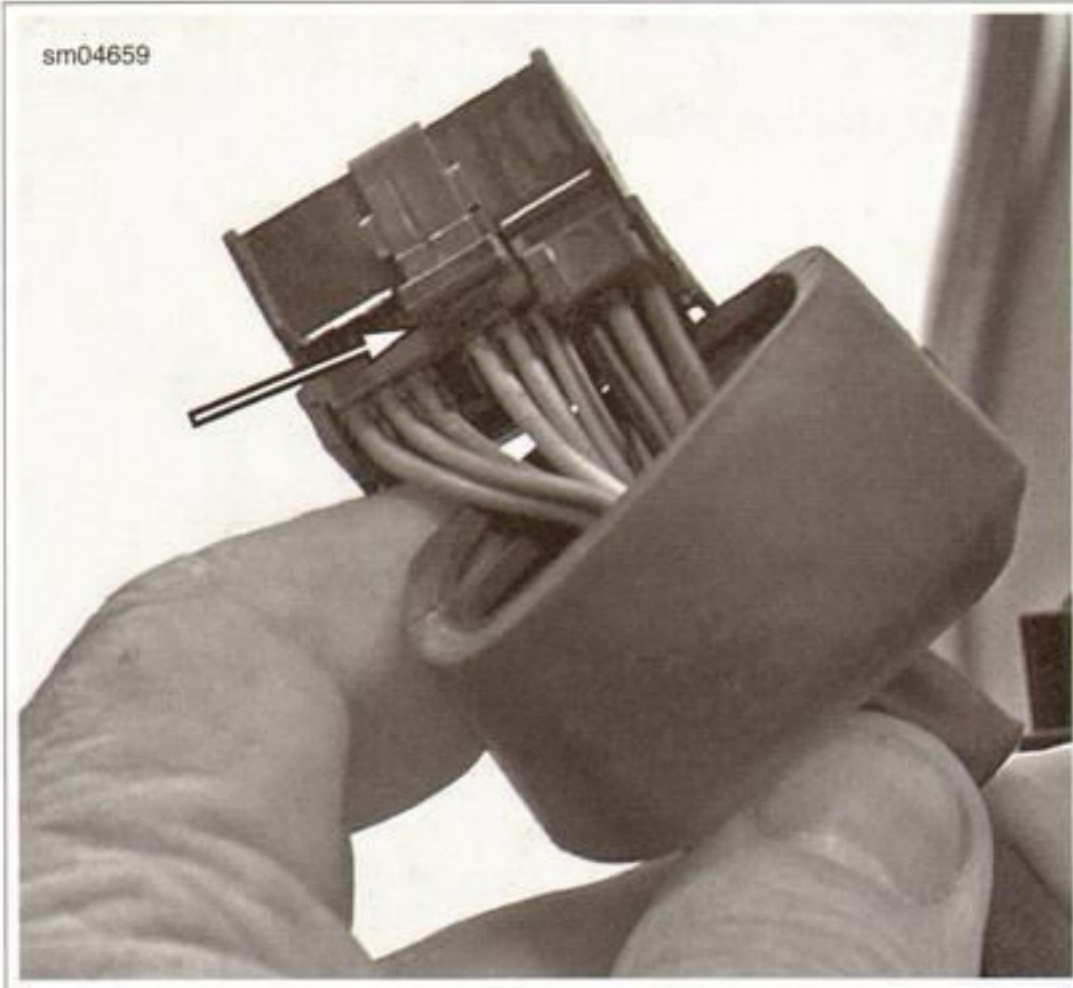

Figure 2-129. Instrument Module Connector Latch
- 5. See Figure 2-129. Press on the top latch to separate the socket housing from the instrument module.